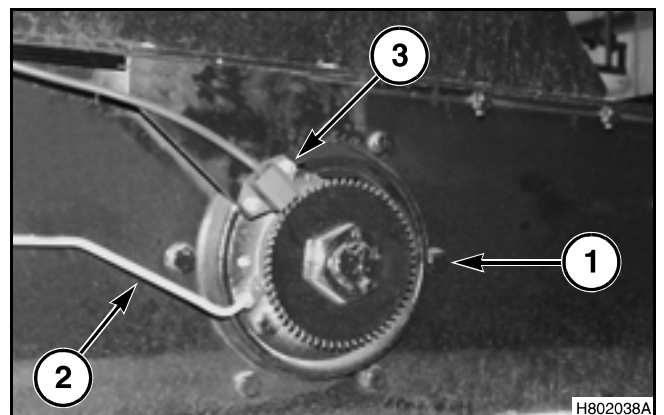

FIG. 126
FIG. 126: Guide the rotor into the processor cage so the front rotor bearing assembly is in the proper location. Install the rotor speed sensor assembly (3) and the rotor bearing assembly to the combine using the existing hardware (1). Install the lubrication line (2) to the front bearing assembly.